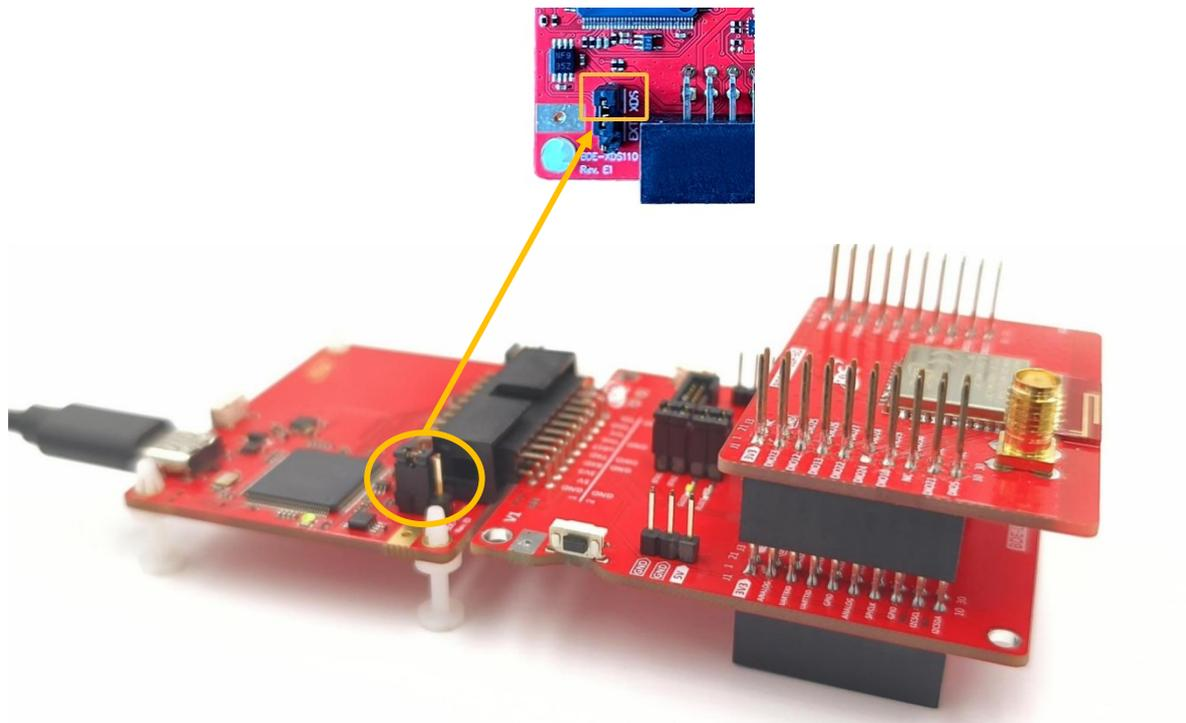

Figure 6. Hardware Setup
1. Plug BDE-MP26P-BO into the BDE-LPEM evaluation module and connect BDE-LPEM to BDE-XDS110, as shown in Figure 6;
2. Connect the jumpers as shown in Figure 6;